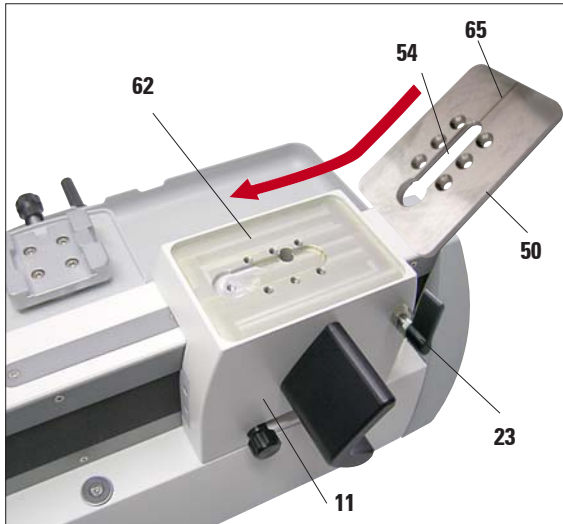

Fig. 15
- As shown in Fig. 15, place the grooved plate on the mounting table. Please make sure that the groove (54) for inserting the blade holder has the rounded end (56) pointing forwards (Fig. 16).